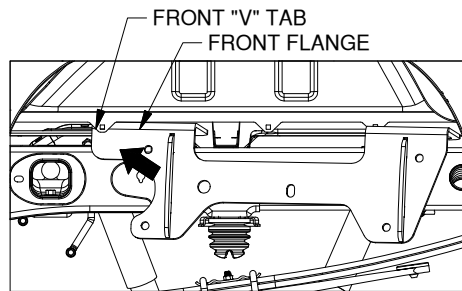
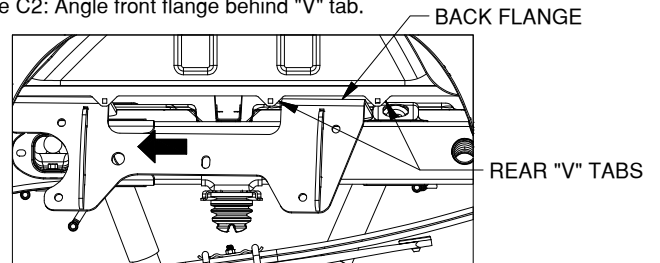
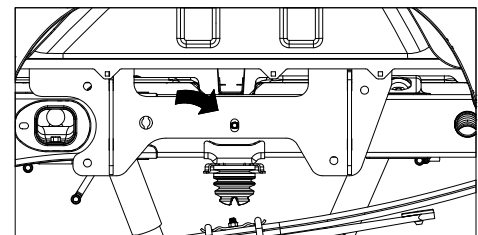
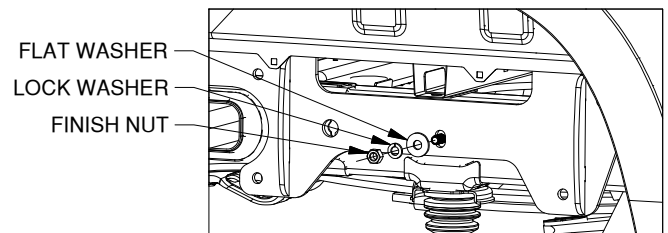

Figure C2: Angle front flange behind "V" tab.
Figure C3: Move side plate forward.
Figure C4: Push side plate back & onto carriage bolt.
Figure C5: Attach side plate with hardware.
- 2. Install driver side plate.** Angle the side plate so the front flange can go behind the front "V" tab of the bed flange, see Figure C2. Move the side plate forward, so the back flange can go between the two rear "V" tabs, as shown in Figure C3. Push the side plate back and rotate onto the installed carriage bolt, see Figure C4. Attach side plate with a flat washer, lock washer, and finish nut. See Figure C5. Hand tighten hardware only at this time.